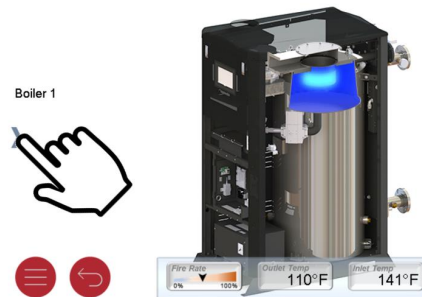

Figure 50. Boiler View Selection ">"
2. On the Boiler view, tap on the ">" sign on left side of the screen see **Figure 50**.